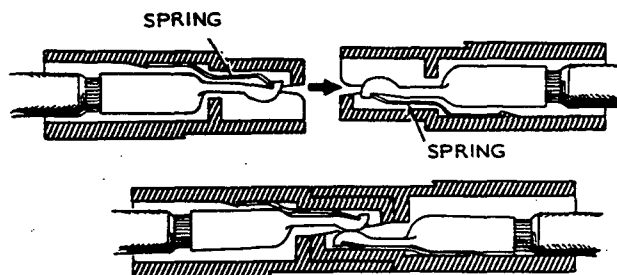

FIGURE 12. CONNECTOR HOUSING AND TERMINAL CONNECTION DETAILS
Each terminal can be removed from the plug by using a thin blade to release the terminal while a slight pull is made on the cable, Figure 12.
5. The cable and plug are now ready for mating with the receptacle on the alternator as soon as the other end of the cable is attached to the power pole transfer switch. See Figure 12.